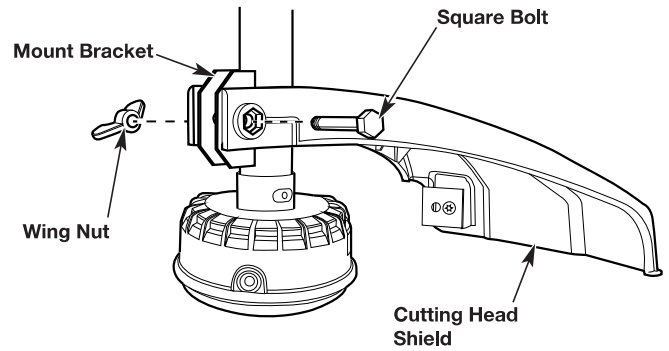

Fig. 1
2. Place the cutting head shield on the mount bracket (Fig. 1).